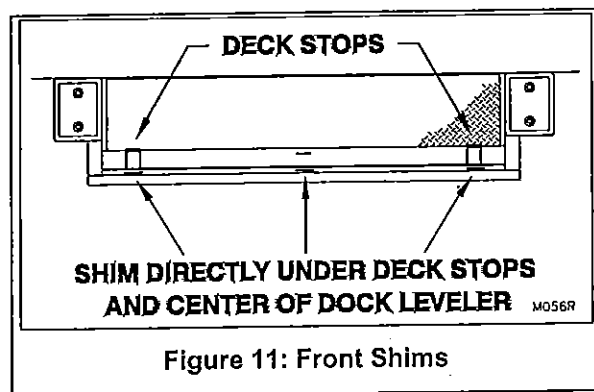

Figure 11: Front Shims
2. Lower dock leveler to the stored position and shim front frame under the two deck stops and in center of dock leveler until the deck is flush with the top of the front curb angle and the floor. (See Figure 11, page 7 for shims placement) Tack weld into position.